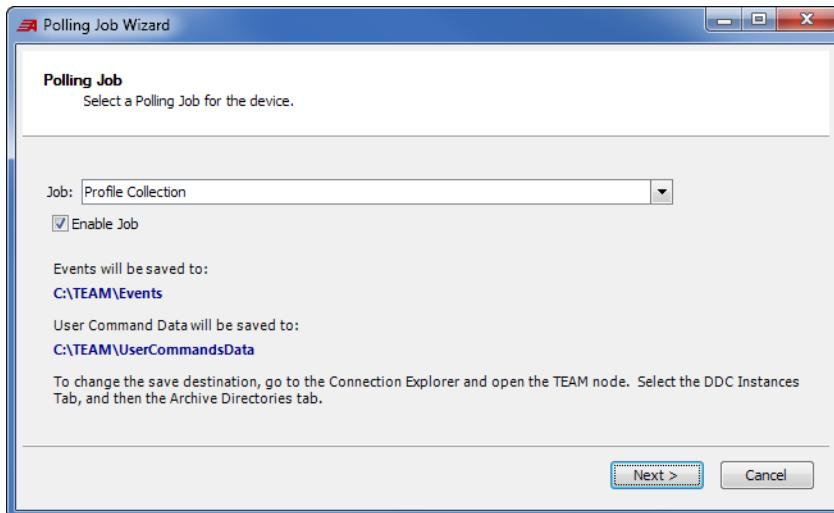

Figure 205 Profile Collection Job
Step 10. Under **Polling Jobs**, select **Add** to open the Polling Job Wizard. Select the drop-down menu, change the **Job** to **Profile Collection** as shown in *Figure 205*, and select **Next**.